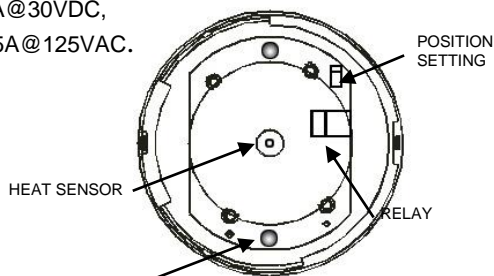

Fig. 3 Schematic of detector structure
- To adjust the normal condition of the relay to "normally closed" (NC), insert a screwdriver into the rectangular hole located on the side between the front cover and base and rotate to remove the front cover.
- Refer to figure 3. There is a jumper head next to the relay on the PCB. Remove the jumper head and reinsert it in the NC position.